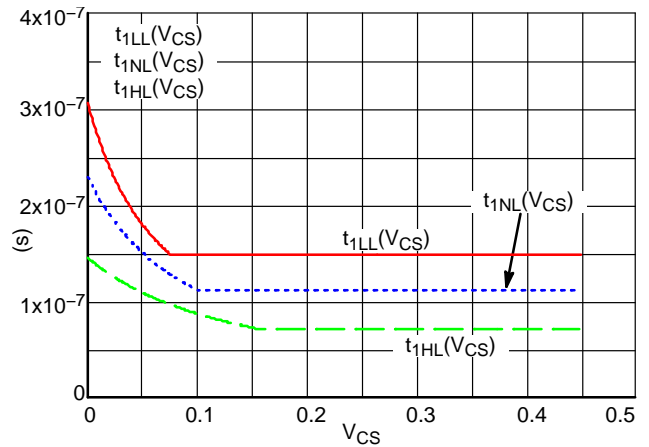

Figure 61. The Dead Time Evolution with Input Voltage and the Sensed Current
0.45 V, we obtain Figure 61 graph for three different input voltages (t_{1LL} for 36 V, t_{1NL} for 48 V and t_{1HL} for 76 V):